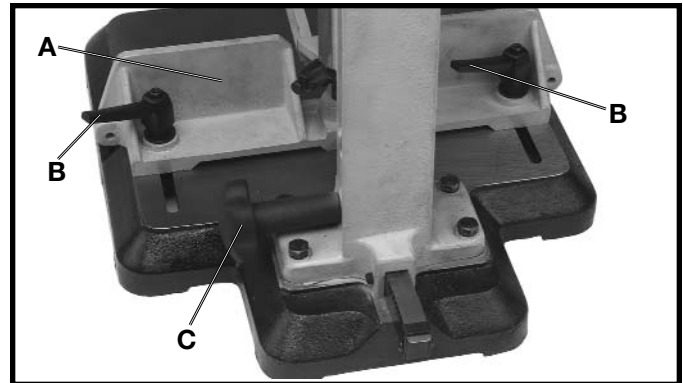

Fig. 24
The fence (A) Fig. 24, can be moved in or out by loosening lock handles (B), and rotate the fence rack handle (C) to move the fence to the desired position and tightening handles (B). **NOTE:** Levers (B) are spring-loaded and can be repositioned by pulling out on the lever and repositioning it on the serrated nut located underneath the lever.